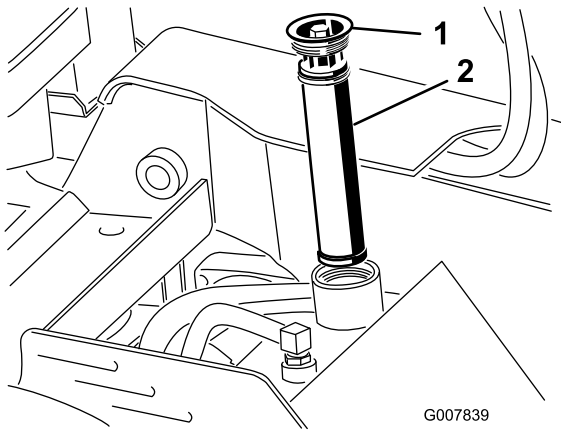

Figure 66
4. Remove and discard the old filter (Figure 66).
5. Install the replacement hydraulic filter and filler cap (Figure 66) and torque the bolt on top to 13 to 15.5 N·m (110 to 140 in-lb).
7. Remove the hydraulic-tank filler cap and filter (Figure 66).
12. Install the hydraulic filter and filler cap (Figure 66) and torque the bolt on top to 13 to 15.5 N·m (110 to 140 in-lb).